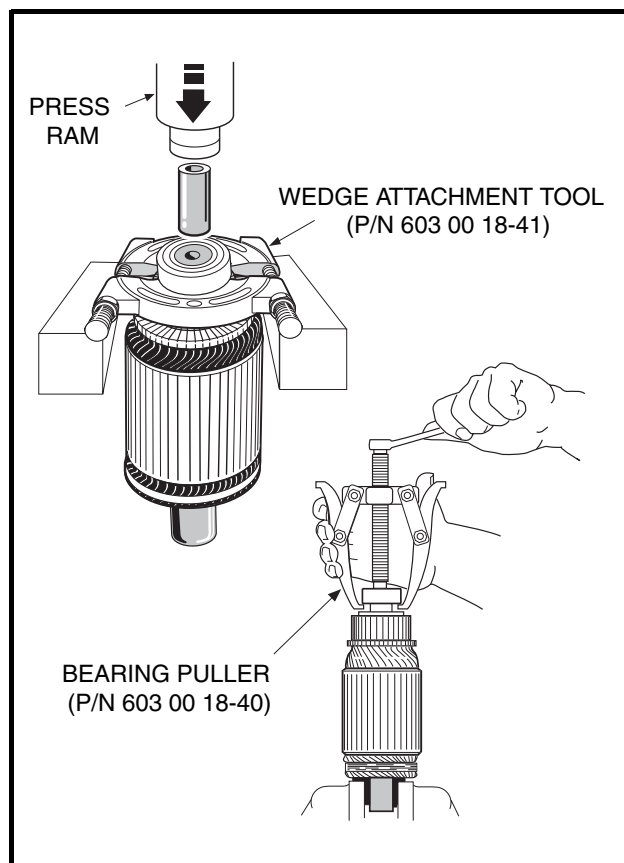

Figure 22a-10 Bearing Removal
- 2.1. With brush rigging facing down and held slightly above stator shell, insert the two terminal posts through insulators in stator shell wall at the A1 and A2 positions. Insert brush holder screws through the holes in the brush rigging and into the threaded holes in the mounting bracket (**Figure 22a-11, Page 22a-11**). Tighten the screws to 20 in-lb (2.3 N-m).
- 2.2. One at a time, push brush spring extensions back from brushes and slide the brushes back until they are completely retracted into their mounting slots. Then position the brush springs against the sides of the brushes so that spring pressure will hold them in the retracted position (**Figure 22a-5, Page 22a-4**).